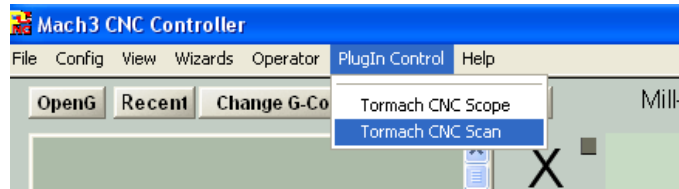

Figure 4. Accessing CNC Scope and CNC Scanner in the Plugin Control Menu
5. The CNC Scope and CNC Scan plug-ins should now appear under the *Plugin Control* menu, as shown in Figure 4. You may have to restart Mach3 before the new plug-in settings take effect.